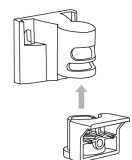

Fig. 5
The detector can either be wall or corner mounted. If ceiling or special wall mounting is required, use the optional bracket base. Refer to bracket description. (See fig. 5).
4. The circular and rectangular indentations at the bottom base are the knockout holes for wire entry. You may also use mounting holes that are not in use for running the wiring into the detector. (For bracket option installation - lead wire through the bracket – fig.5)
5. Mount the detector base to the wall, corner or ceiling. (For bracket option with see fig. 5).